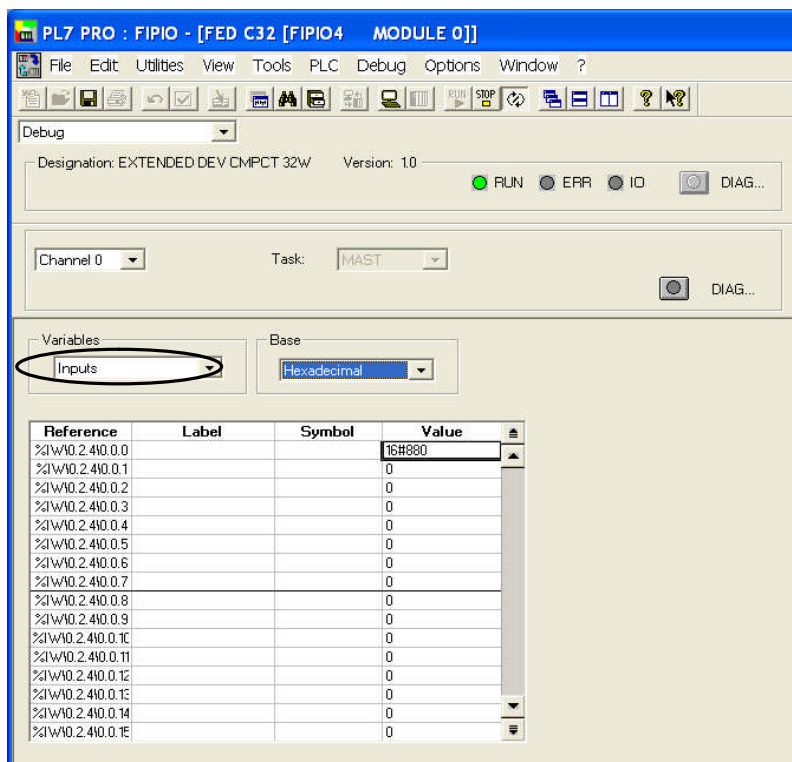

Figure 22 Monitoring the input data.
- Data to the fieldbus can be seen at byte 0 and 1 in the In Area ❷. The value is corresponding to the value seen in Figure 22 Monitoring the input data.
The same value is written to the first Holding register as seen below. The corresponding value in the PLC can be seen in Figure 22 Monitoring the input data.